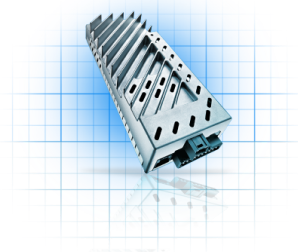

Abbildung 3
- Abbildung 3 http://static.harmanardon.com/tl_files/themes/shop/skins/harmanshop/02/images/automotive/tech/tech-amp-bg.png